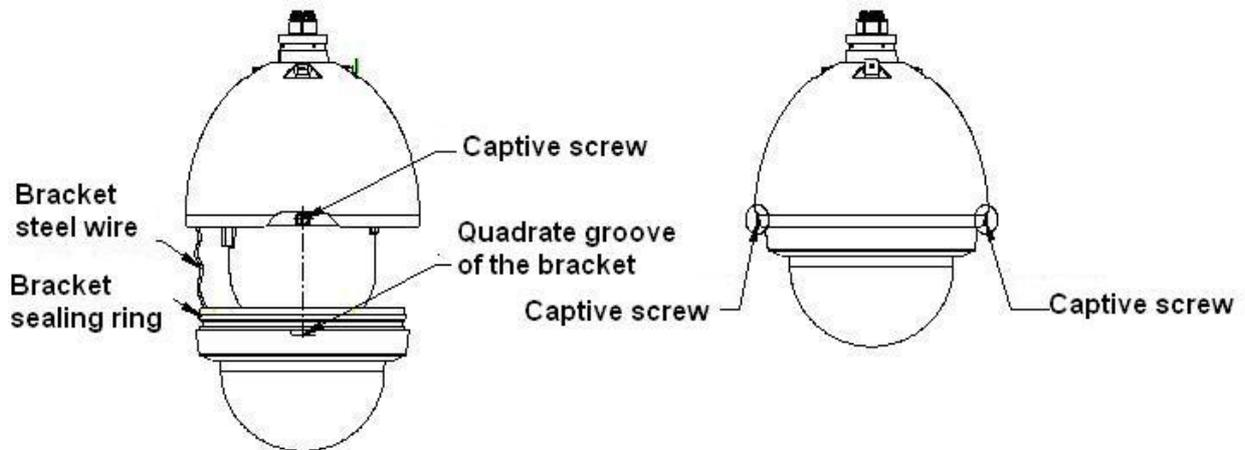

Figure 1-11
2. Please line up the captive screws to the quadrate groove of the bracket and then push the bracket into the internal enclosure. Fix these two captive screws. See Figure 1-11.